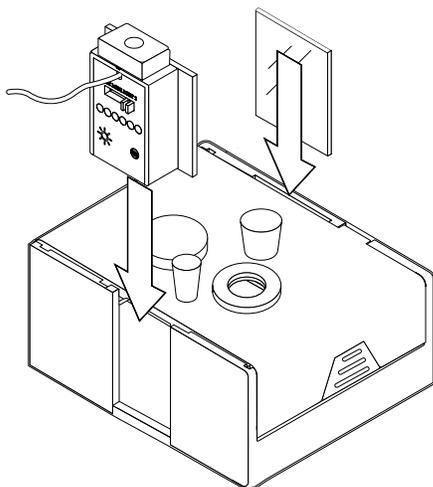

Figure 2: Insert the mirror and light.
3. Insert one of the mirrors into the slot in the chamber with the smaller side opening. The mirrored side should face inward towards the chamber, as shown in Figure 2.
4. Insert the LED light source into the slot in the chamber with the larger side opening, as shown in Figure 2. To ensure that more of the light has a chance to be absorbed by the sample, align the light source so the threaded hole faces upwards.